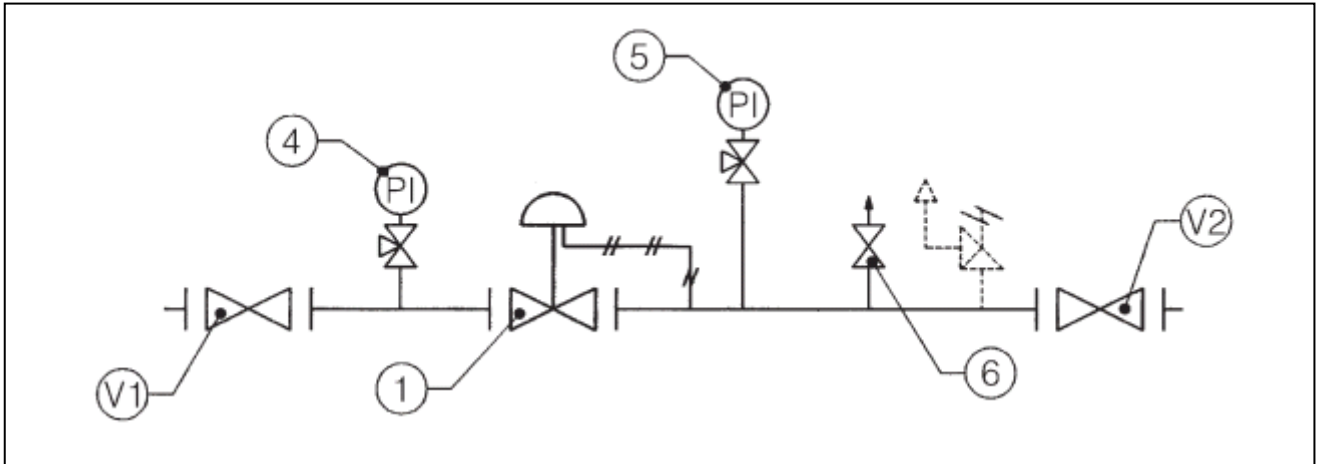

fig. 5
4.3 COMMISSIONING THE REGULATOR (fig.5)